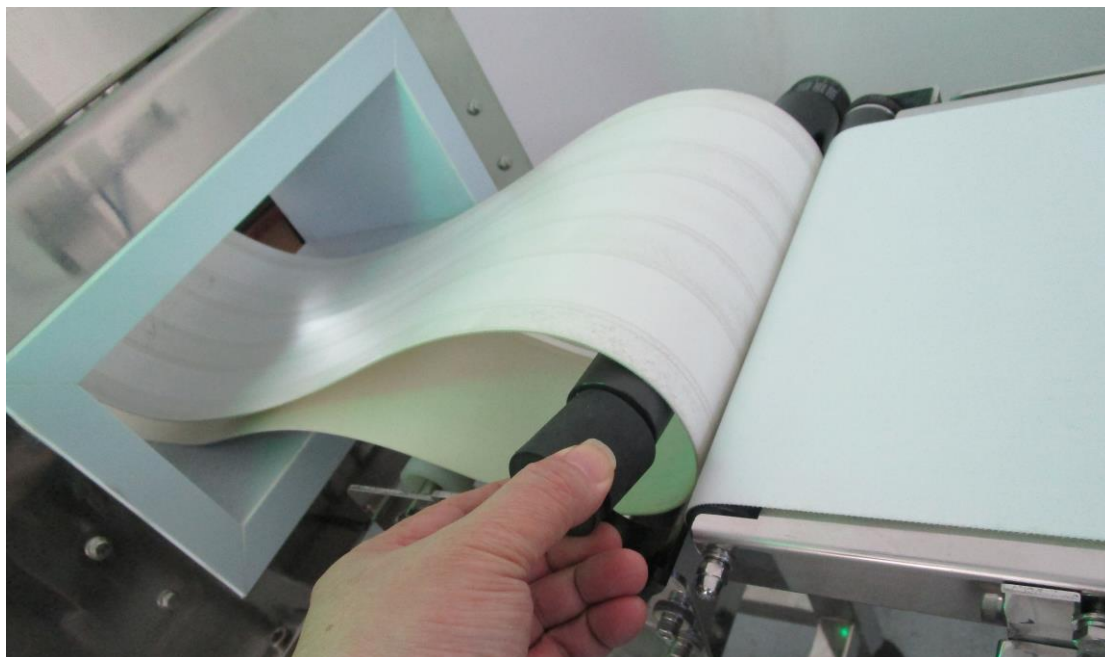

Figure 4-5 Take out the conveyor belt
5) Gently pick up the unfixed side of the driving roller and take out the conveyor belt (Figure 4-5).